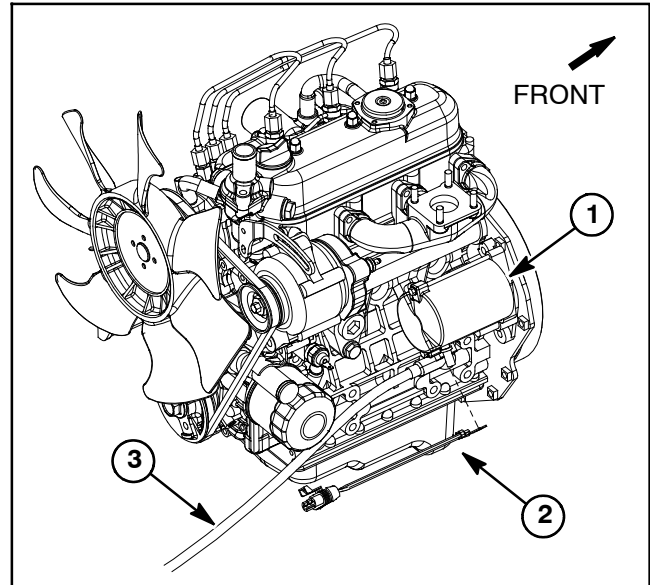

Figure 60
The Reelmaster 5010- H uses three (3) fusible links for circuit protection. These fusible links are located in a harness that connects the starter B+ terminal to the main wire harness (Fig. 60). If any of these links should fail, current to the protected circuit will cease. Refer to wire harness drawings in Chapter 9 - Foldout Drawings for additional fusible link information.